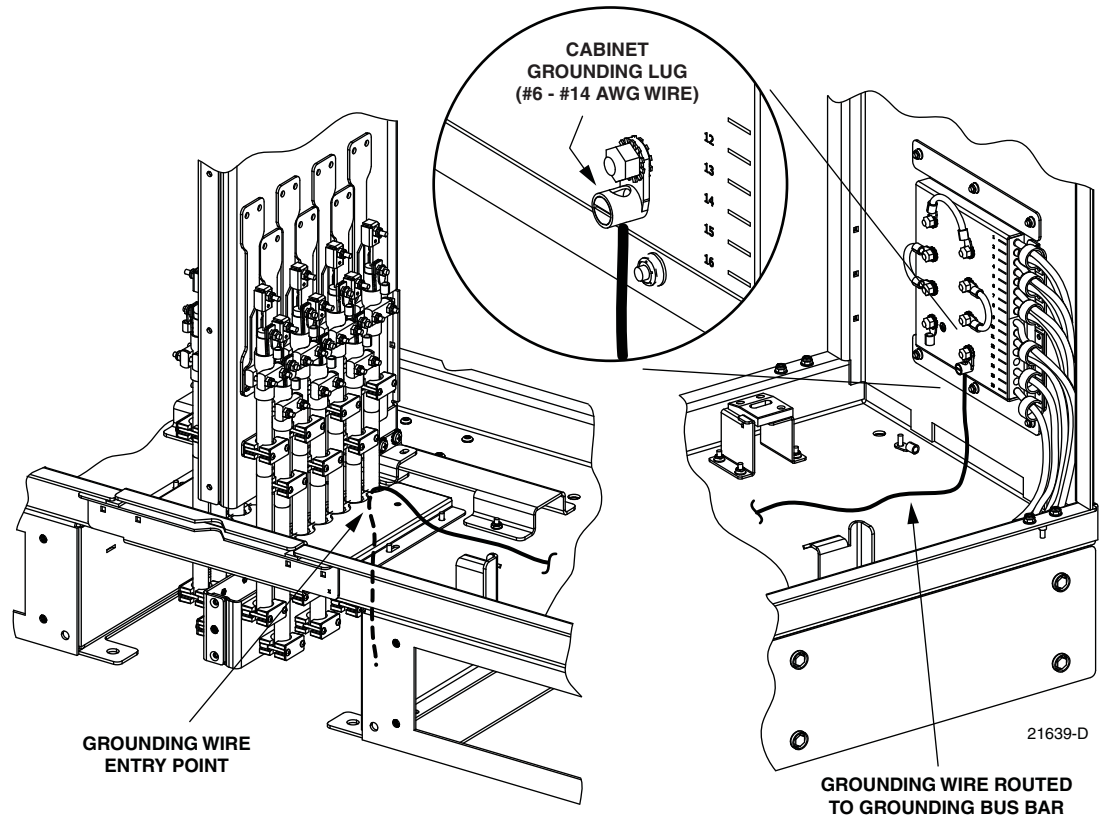

Figure 7. Grounding Wire Connection To Grounding Bus Bar
2. Working from the bottom side of the cabinet, insert the grounding wire through the flexible membrane at the point indicated in Figure 7.
12. If a grounding stud is provided on the cable, connect a #6 AWG jumper cable (provided with panel) between the cable grounding stud and the cabinet grounding block (see Figure 7). Tighten grounding stud nuts to 30 to 35 inch-lbs. (3.4 to 4.0 Nm) of torque.